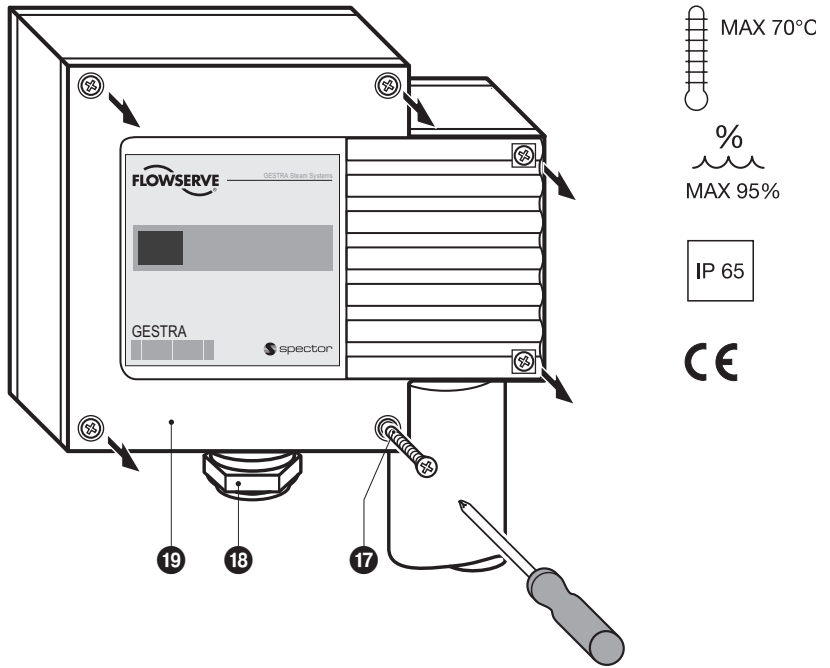

Fig. 14
1. Unscrew screws ⑰ and remove housing cover ⑱. **Fig. 14.** The arrow on the name plate points towards this cover..